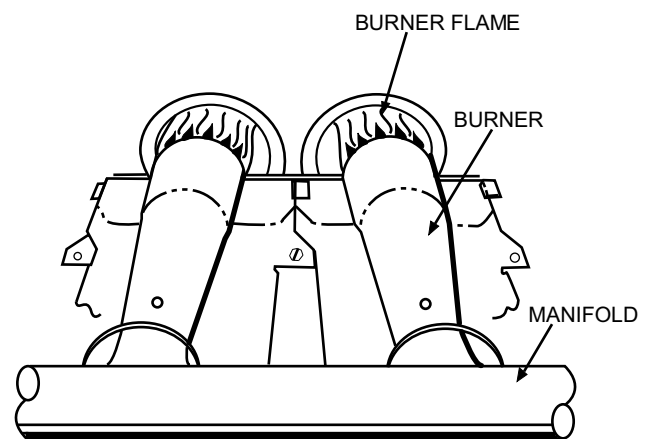

Fig. 8 – Monoport Burner
1. Inspection of all flue product passages-including the burners, heat exchanger, and flue collector box, Make sure the burner flames are blue in color and in proper adjustment. Refer to Fig. 8 for burner flame.